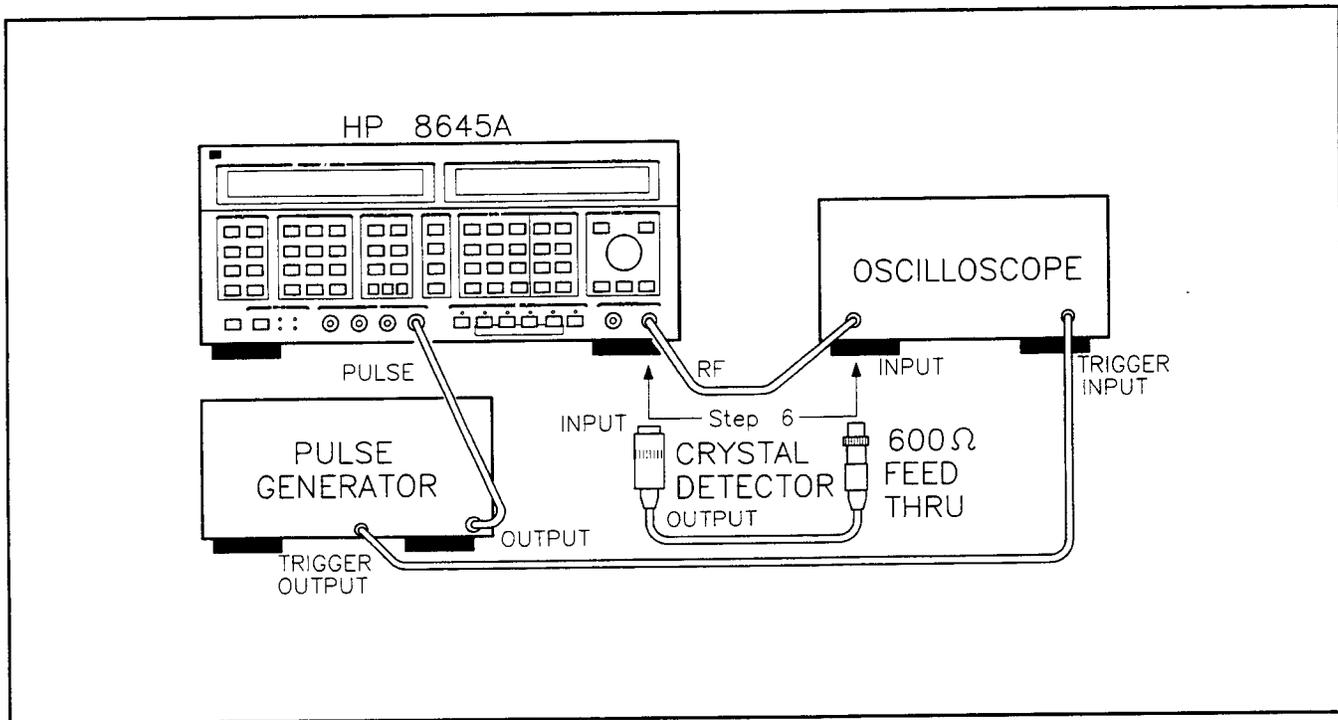

Figure 3-13. Pulse Modulation Test Setup
1. Connect the equipment as shown in figure 3-13.
10. Remove the crystal detector from the Signal Generator's OUTPUTS RF and connect the OUTPUTS RF to the spectrum analyzer's input. (The spectrum analyzer is not shown in figure 3-13.)